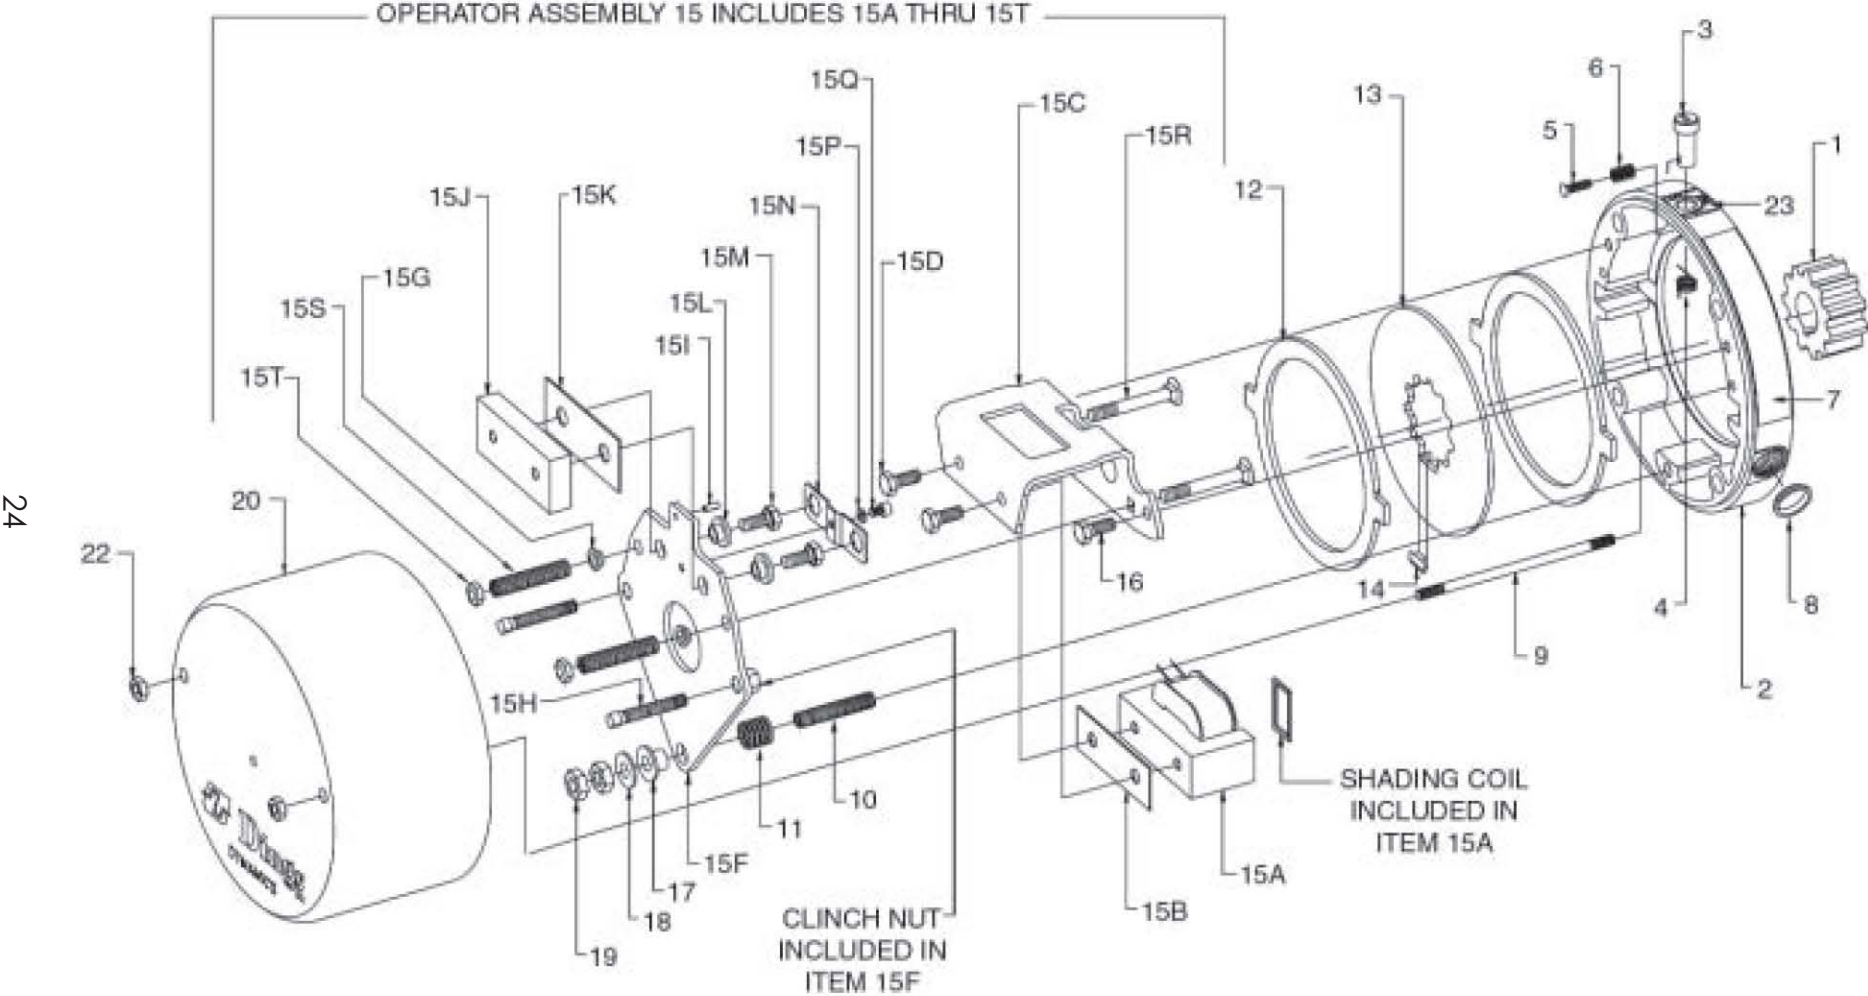

Figure 9
5. **Re-assembly of operator assembly (15)**
Refer to Figs. 3 and 9. (Capscrew (16) is shown in Fig. 9 and not Fig. 3)